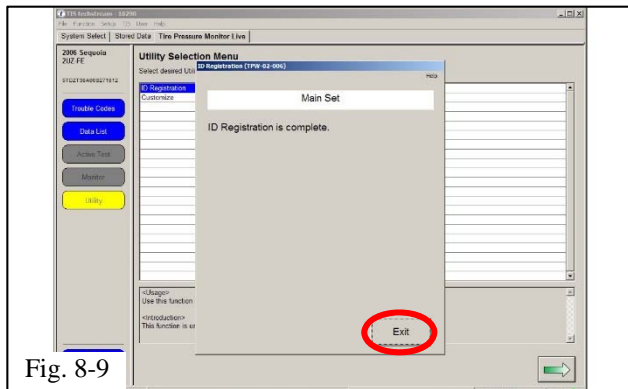

Fig. 8-9
- (k) After all TPMS ID numbers have been registered, “ID Registration is complete” text should be displayed. Click “Exit” to finish the registration process (Fig. 8-9).